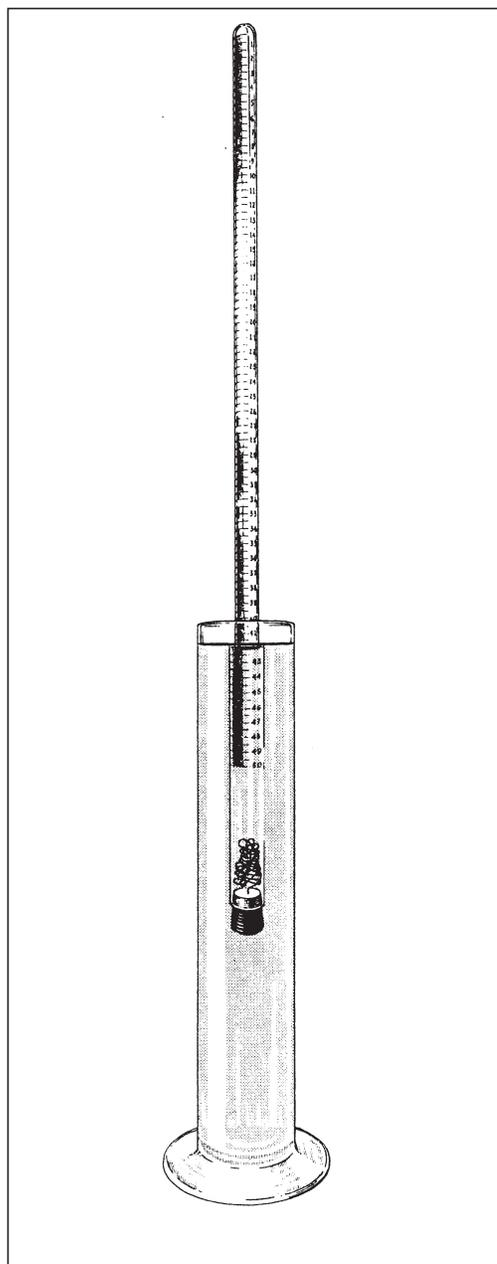

Figure 2:
9. Cover the hole(s) in the stopper with your finger and transfer the tube to a large cylinder or battery jar that is almost filled with water at room temperature (see Figure 2). Raise or lower the tube until the level of the liquid inside the tube is the same as the level outside the tube. This permits you to measure the volume of the gases in the tube (hydrogen and water vapour) at room pressure. Read the volume with your eye at the same level as the bottom of the *meniscus* (the lens shape surface taken by the water in the tube). Record the volume of the gas to the nearest 0.05 mL.